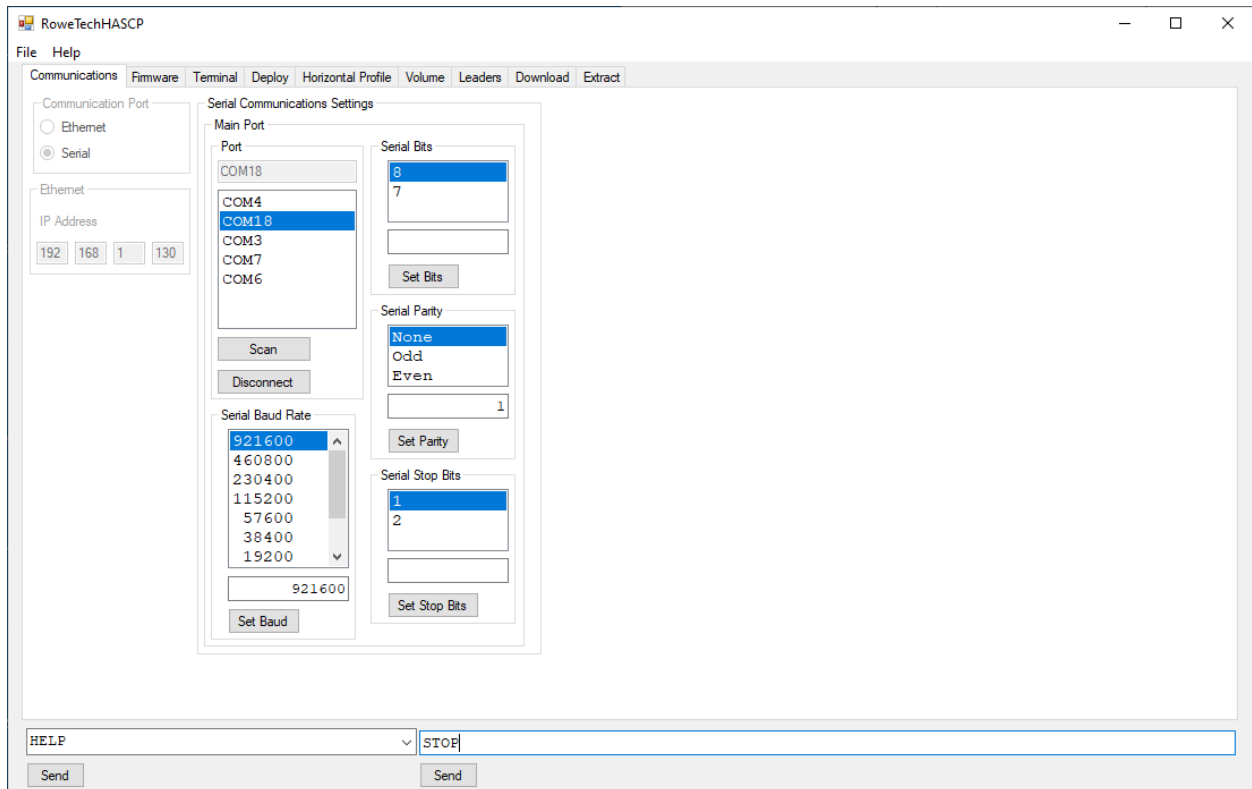

Figure 4. Connecting to HASCP – Communications set up.
- i. Click the Communications TAB on the top left of the software window. Refer to Figure 4.